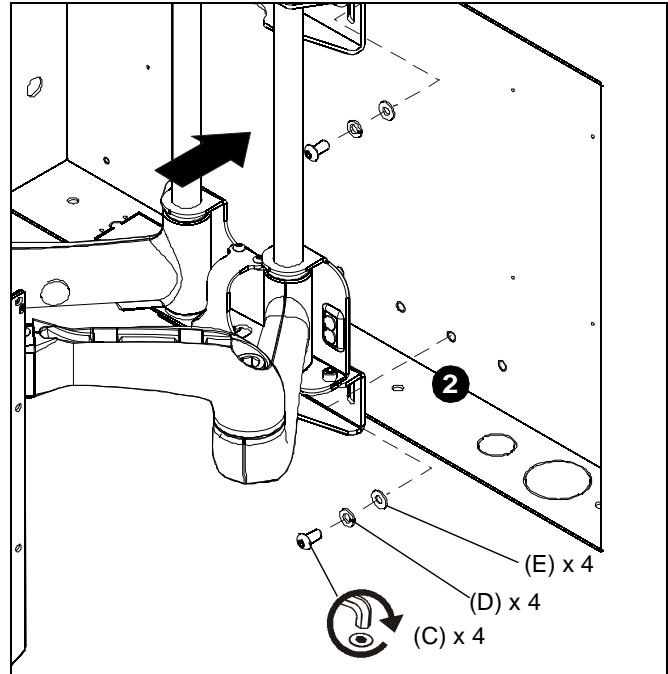

Figure 2
2. Secure swing arm to PAC501 using four button head cap screws (C), four lock washers (D) and four flat washers (E). (See Figure 2)